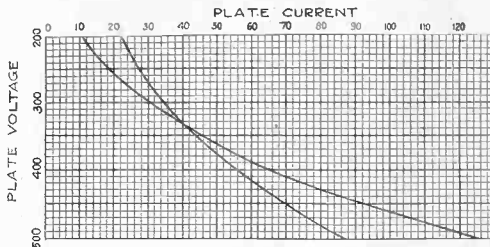

FIG. 609
(1)—The curves in Fig. 609 give the information you ask for. The longer curve of the two is the power curve. The power in watts is obtained by dividing the plate current reading by 20. Thus at 100 the longer curve reads 5 watts.